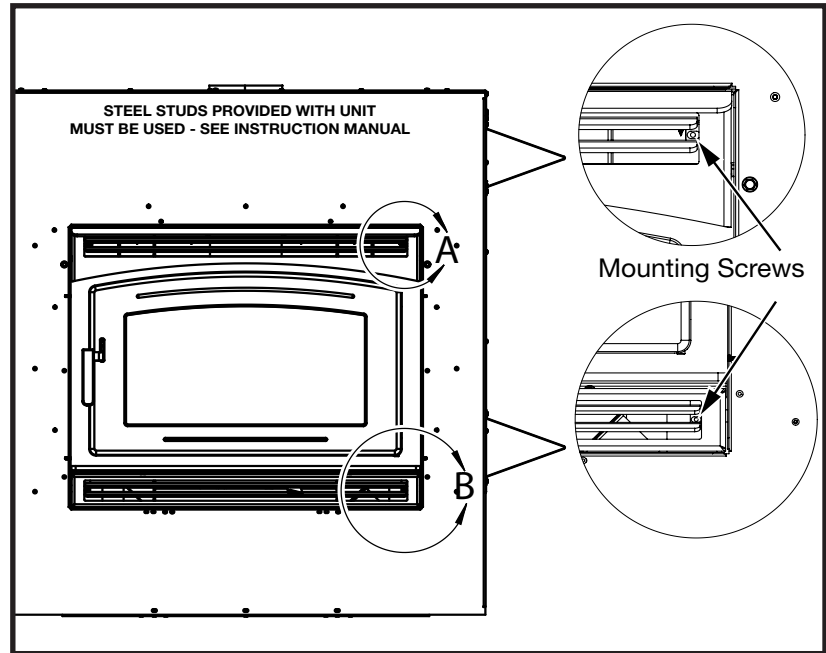

Figure 3: FP30.Body B Arch Surround.
- Remove the Upper and Lower Louver Assemblies by removing the mounting screws located on both sides, inside the upper and lower grills using a 5/16" nut driver (Figure 3).